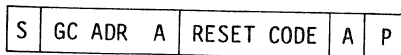

Fig. 3.11 Data format of transfer to reset CITAC.
- subroutine GCCIT which resets the CITAC (SAB3035/36/37). The format of this transmission shown in Fig. 3.11: